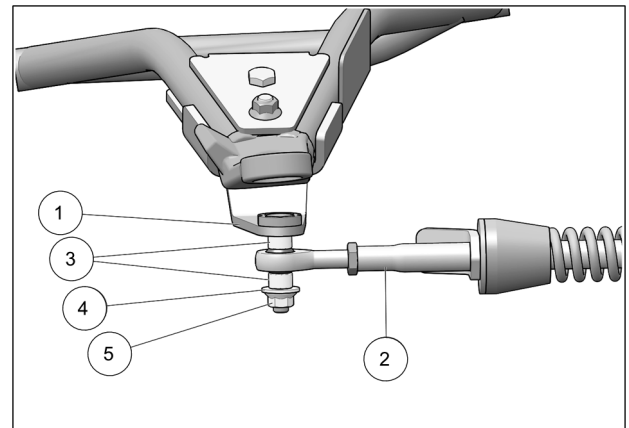

Fig. 19
9. Attach the stabilizing rod (2) to the anchor bracket (1), using the two spacers (3), washer (4), and nut (5). Torque to $70\text{ N}\cdot\text{m}$ [$52\text{ lb}\cdot\text{ft}$]. Refer to Fig. 19